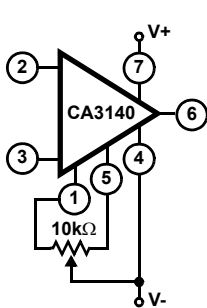
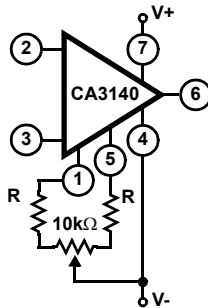

FIGURE 3A. BASIC
FIGURE 3B. IMPROVED RESOLUTION
The input offset voltage can be nulled by connecting a 10kΩ potentiometer between Terminals 1 and 5 and returning its wiper arm to terminal 4, see Figure 3A. This technique, however, gives more adjustment range than required and therefore, a considerable portion of the potentiometer rotation is not fully utilized. Typical values of series resistors (R) that may be placed at either end of the potentiometer, see Figure 3B, to optimize its utilization range are given in the Electrical Specifications table.